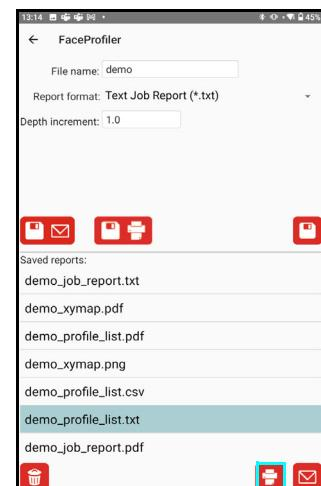

Figure 65
- Tap to select the Report in the scrolling list of saved reports (at the bottom half of the page) and tap  (Figure 65).